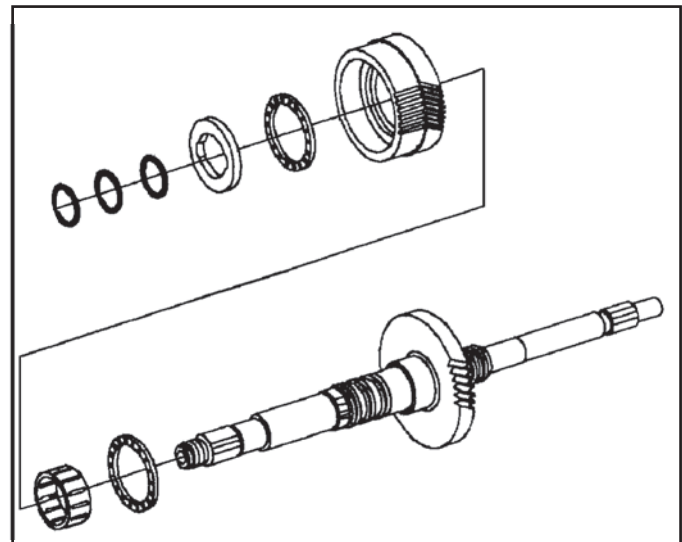

Figure 88
7. Remove 3 O rings from the input shaft and slide the 2/3 clutch housing thrust washer off the input shaft as well as the double sided needle bearing washer, the 3rd drive gear, the 3rd drive gear caged needle bearing and the 3rd to reverse gear double sided needle bearing. Inspect all bearing races and gear teeth for wear, chipping or pitting and replace if necessary (See Figure 88).